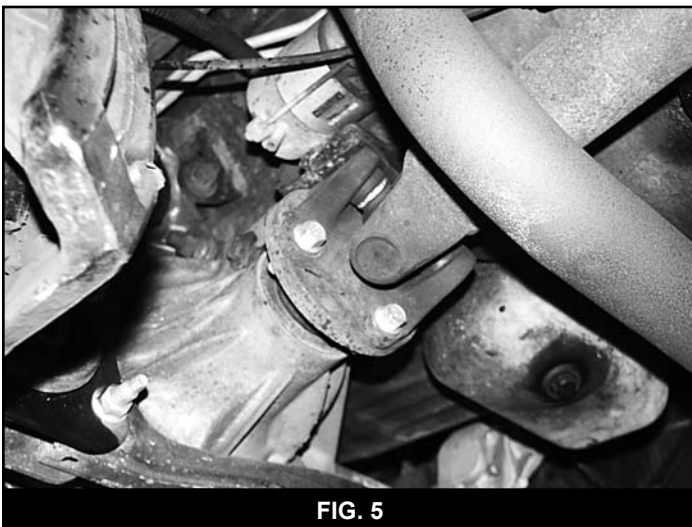

FIG. 5
24. Make indexing marks on the front drive shaft and differential input flange for realignment later (Fig 5). Remove the four bolts and disconnect the drive shaft from the differential. Discard mounting bolts.